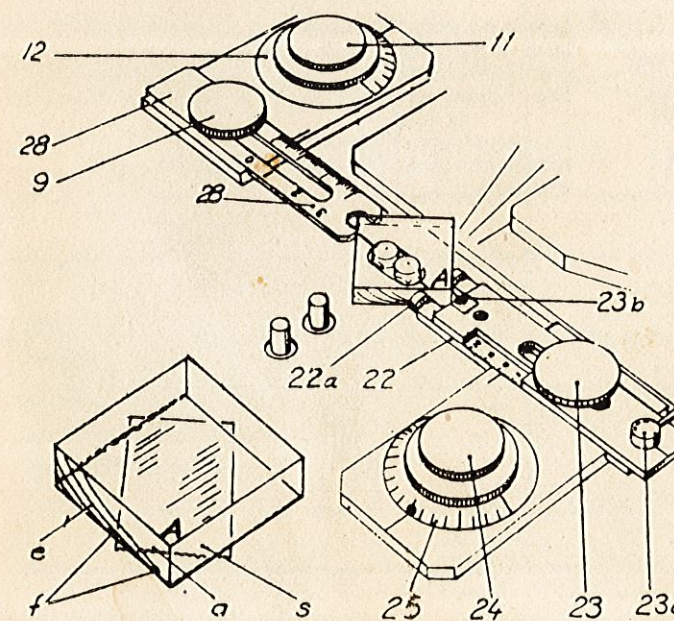
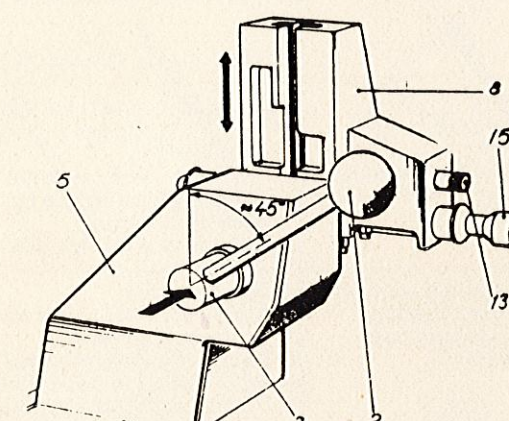

Fig. 3
Fig. 4
5. Push rear glass holder (28) against glass square.
6. Turn knob (31) slowly backwards and pull it outwards to stop.
7. Push rear glass holder (28) two scale divisions towards glass square. Then lock holder with screw (9).
8. Push in disengage knob (31). Glass holder (28) will then press against glass square.
10. Set score selector (13) (see fig. 4) with "25" upwards.
NOTE: For location of the squares note that the two fractured "transverse" sides of each square have a more or less conchoidal surface (a), see fig. 3. Most of the lines (e) seem to radiate from the two points (f) on lower edge of surface where the breaking pins were in contact with the glass. This side should be turned to the left. Procedure when using squares:
1. Place a square in apparatus as described above so that corner A, nearest the contact marks (f), is directed towards operator. (The opposite corner is usually not as straight and symmetrical as the corner nearest to the contact marks and is therefore not used. If knife edge disturbances occur, put a piece of adhesive tape on underside of the glass square without touching corner A (see fig. 3). Also check that damping pad (23b) is free from glass splinters.
5. Lower clamping head (8) with the lever, see fig. 4, to locking position. Do not use undue force when locking.
8. Break by turning knob (18) clockwise until glass fractures and then reset knob.
9. Reset DPA-lever to position shown in fig. 3.
10. Support scoring shaft with the right hand while moving lever (2) to its starting position.
1. Remove clamping head (8) as follows:
- a) Set lever (2) at about 45° angle as shown in fig. 4.
- b) Set symbol  $\equiv$  on score selector (13) upwards.
2. Insert Allen wrench (39) into screw (33) and adjust spring pressure as follows:
3. Replace clamping head (8) as follows (see fig. 4):
- a) Check that locking lever (2) is at about 45°.
- b) Press shaft (3) to the right with left hand and push simultaneously down clamping head (8) into bracket (5) with the right hand.